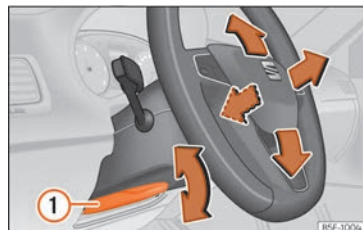

Fig. 21 Lever in the lower left side of the steering column.
• Adjusting the position of the steering wheel: pull the »» **Fig. 21** ① lever down, move the steering wheel to the desired position and lift the lever back up until it locks.